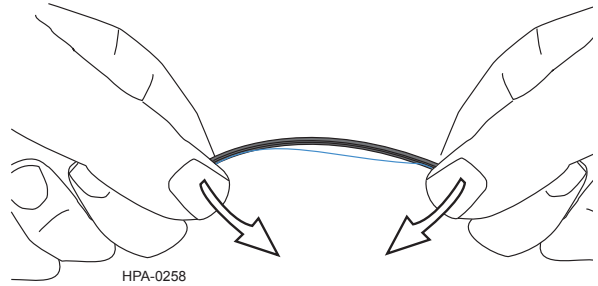

Figure 9
- b. When the fiber is exposed, remove the rest of the strip length (Figure 9).